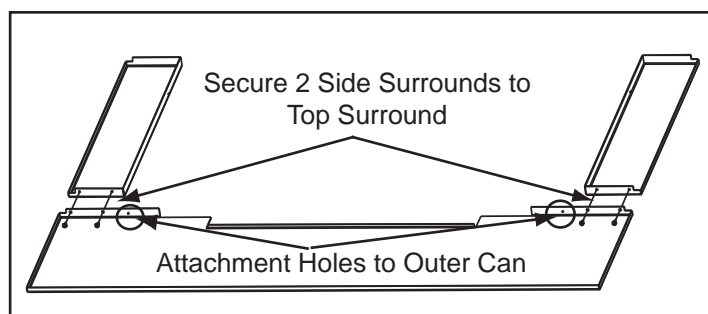

Figure 40.4
2. Using a Phillips head screw driver attach the side surrounds to the top surround using 2 #8 sheet metal screws provided with the kit. **Figure 40.4.**